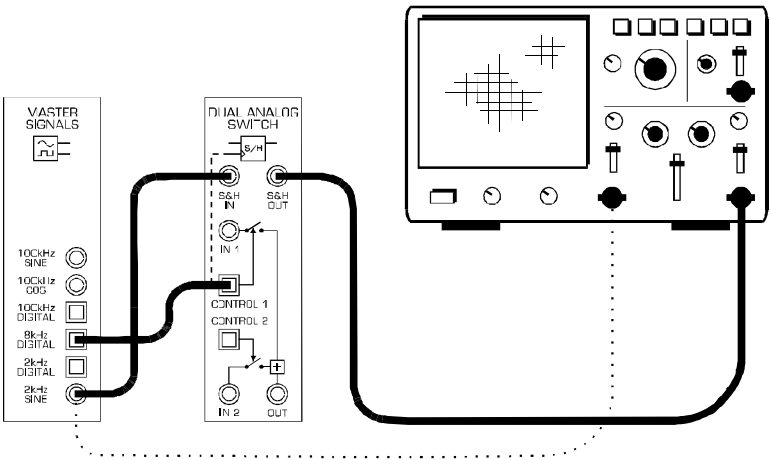
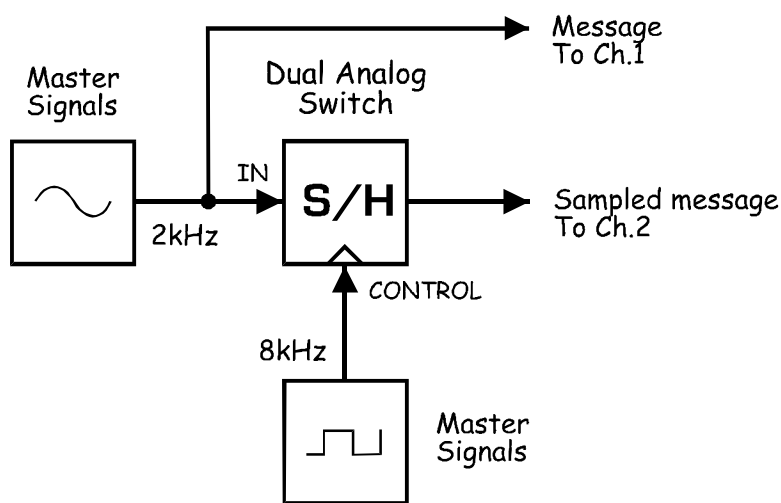

Figure 4
Figure 5
8. Modify the set-up as shown in Figure 4 below.
The set-up in Figure 4 below builds on the set-up that you've already wired so don't pull it apart. To highlight the changes that we want you to make, we've shown your existing wiring as dotted lines.
The set-up in Figure 4 can be represented by the block diagram in Figure 5 below. The electronically controlled switch in the original set-up has been substituted for a sample-and-hold circuit. However, the message and sampling signals remain the same (that is, a 2kHz sinewave and an 8kHz pulse train).